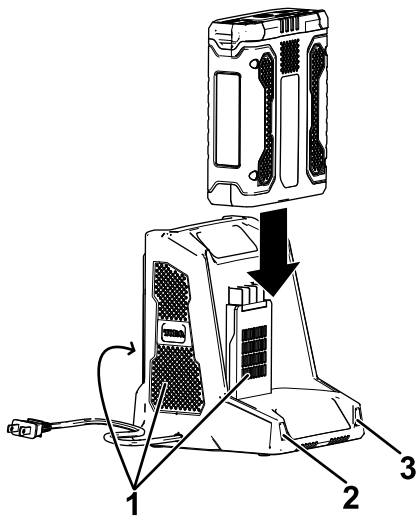

Figure 10
- 4. Slide the battery pack into the charger until it is fully seated (Figure 10).